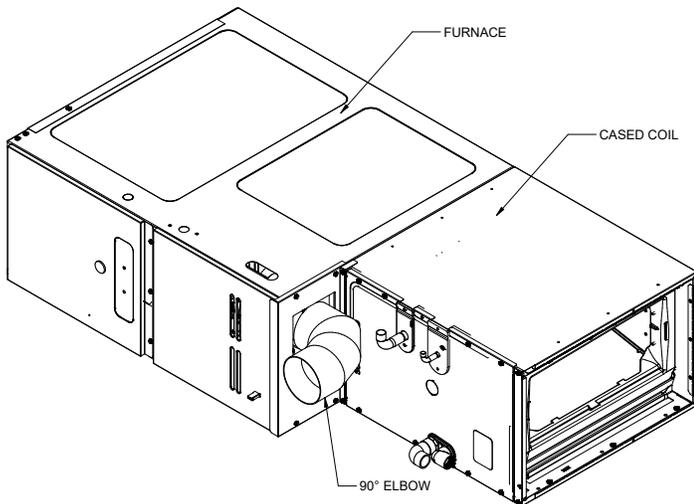

Figure 4A
4. In case of CHPTA1822A coil match up with 80% furnace in horizontal right application, 90° elbow flue vent must be used and oriented away from the cased coil (see Figure 4A).